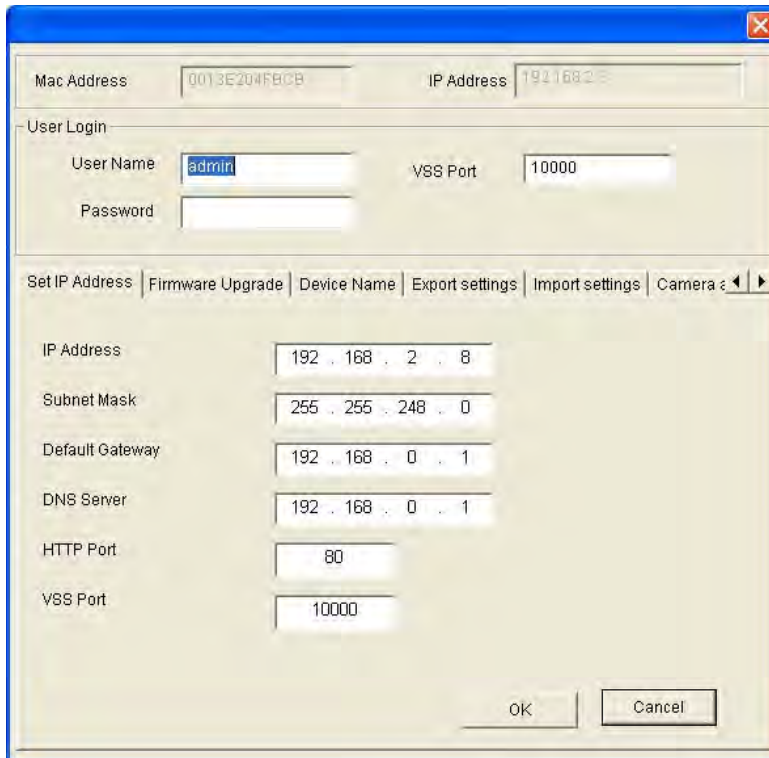

Figure 5-3
2. Double-click the camera in the list. Figure 5-3 appears.
1. In Figure 5-3, click the **Import Settings** tab. This dialog box appears.